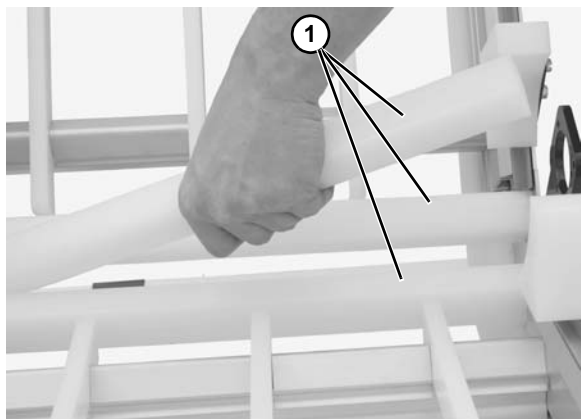

Figure 85
6. Remove knuckle belt supports (**Figure 85, item 1**).